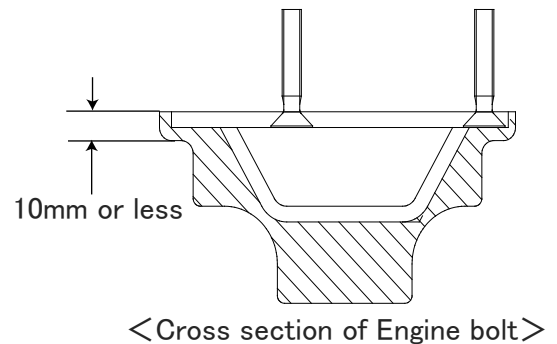

Fig.24
4. Checking the engine bolt (fig. 24)